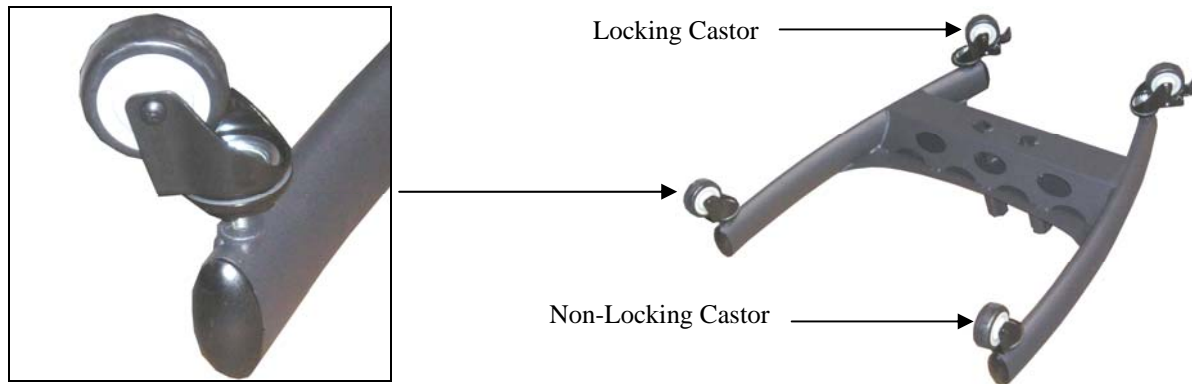

Figure 1
BW BASE CASTOR INSTALLATION (FIGURE 1) - 5 -
BW Base Castor Installation (Figure 1)
2. Insert each castor into the threaded mounting point located on the underside of the BW/L base (Figure 1). Turn each castor clockwise to tighten. Make sure all four castors are tightened all the way until flush with the base. Tighten using the 21mm castor wrench (supplied).